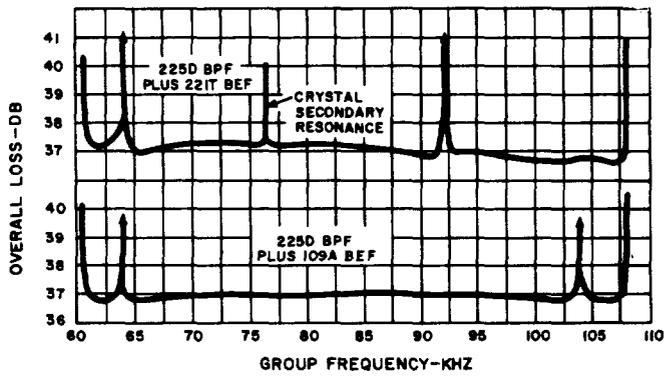

Fig. 11—B1 Group Connector for L-to-J and J-West-to-K Systems
- (c) L to J (Fig. 11, 12)
- (e) J West to K (Fig. 11)